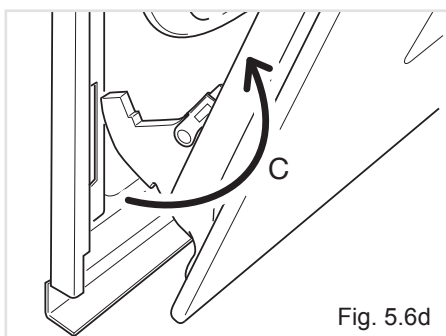

Fig. 5.6d
- Withdraw the hinge hooks from their location following arrow "C" (fig. 5.6d).